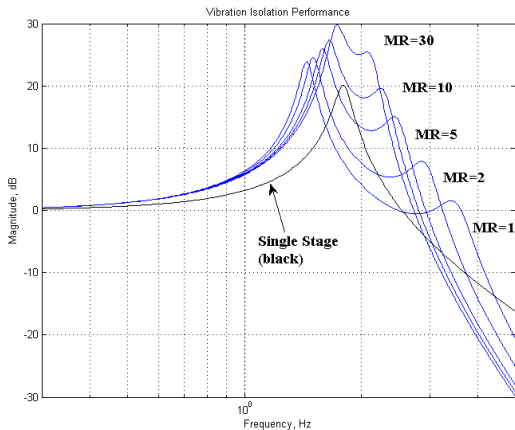

Figure 2: Predicted isolation vs mass ratio
In stacked systems, the mass ratio ($M2/M1$) varies from about 1 to 30 and determines the level of degradation. The lower isolators ($K2$ & $B2$) are assumed to be medium-load isolators with a 1.8Hz resonance. The top isolators ($K1$ & $B1$) are assumed to be low-load isolators with a 2.0Hz resonance. Using this model the vibration transfer function of the stacked isolation system can be compared with a single isolator. That calculation is shown in Figure 2 below. The black curve is the single-stage isolator while the blue curves show the isolation performance for stacked systems with the mass ratios (MR) of 1, 2, 5, 10 and 30. It can be seen that the stacked systems actually have two ‘normal mode’ frequencies that are